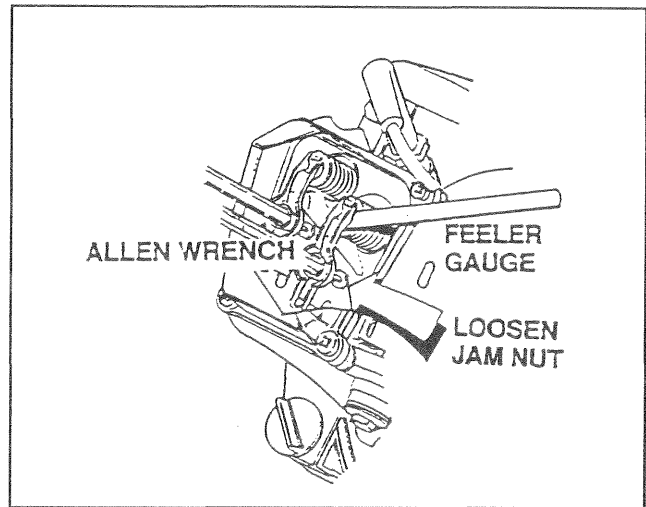

Figure 10 — Adjusting Valve Clearance
1. Loosen the rocker arm jam nut. Use an allen wrench to turn the pivot ball stud while checking clearance between the rocker arm and the valve stem with a feeler gauge (Figure 10).